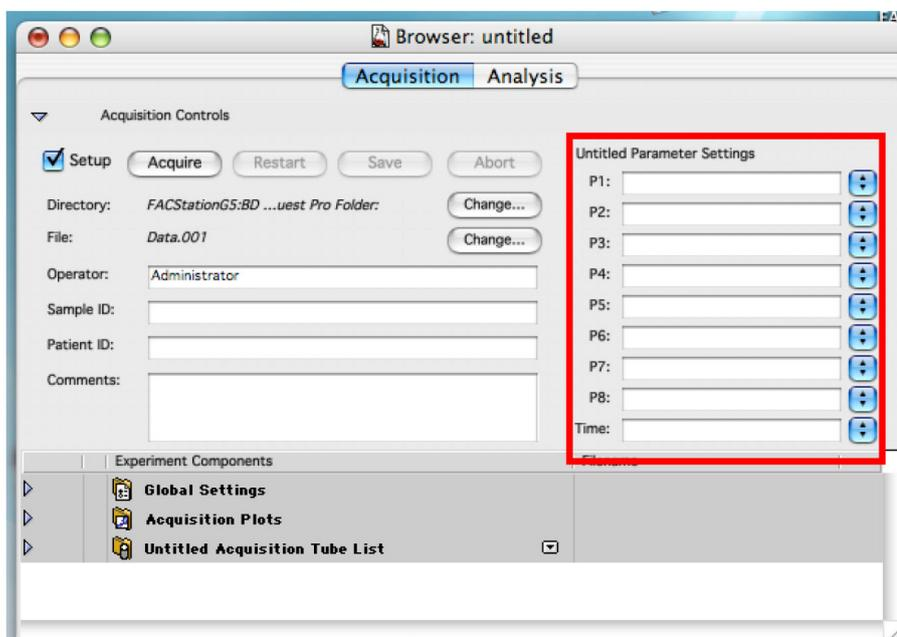

Figure 2. Displaying the Browser. Enter names for each used detector.
6. Enter the name for each needed detector. Use P4 (FL2 585/42) for daunorubicin detection (Figure 2).